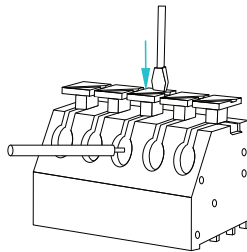

Figure 4 AcuCO2 DM Push Button Terminal Block
3. To remove the wire, push in the button to open the spring, allowing the wire to be pulled out. Refer to Figure 4 for details.